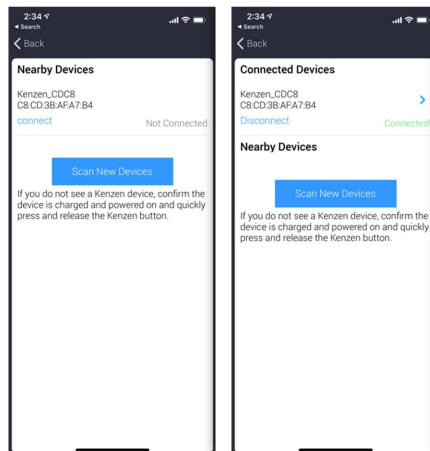

Figure 12: Device Connection Status
7. Select “Connect” when the device appears. If a device does not automatically appear, select “Scan New Devices” and repeat the step if necessary (Figure 12)
8. Select “Back” in the upper left corner when your device has successfully connected, indicated by **Connected!** in green lettering (Figure 12).